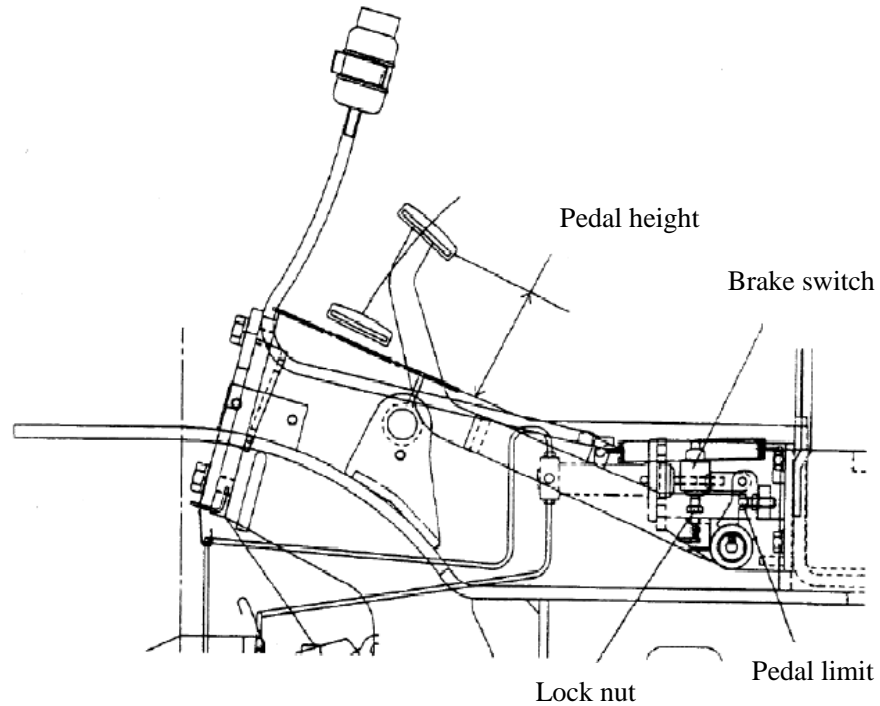

Fig. 2-26
(1) Make the push rod short.
- (2) Adjust the stopper bolt and the height of the pedal. (See Fig. 2-26)
- (3) Press the brake pedal. Pull the push rod out until its front end comes into contact with the master cylinder piston.
- (4) Tighten the push rod locking nut.